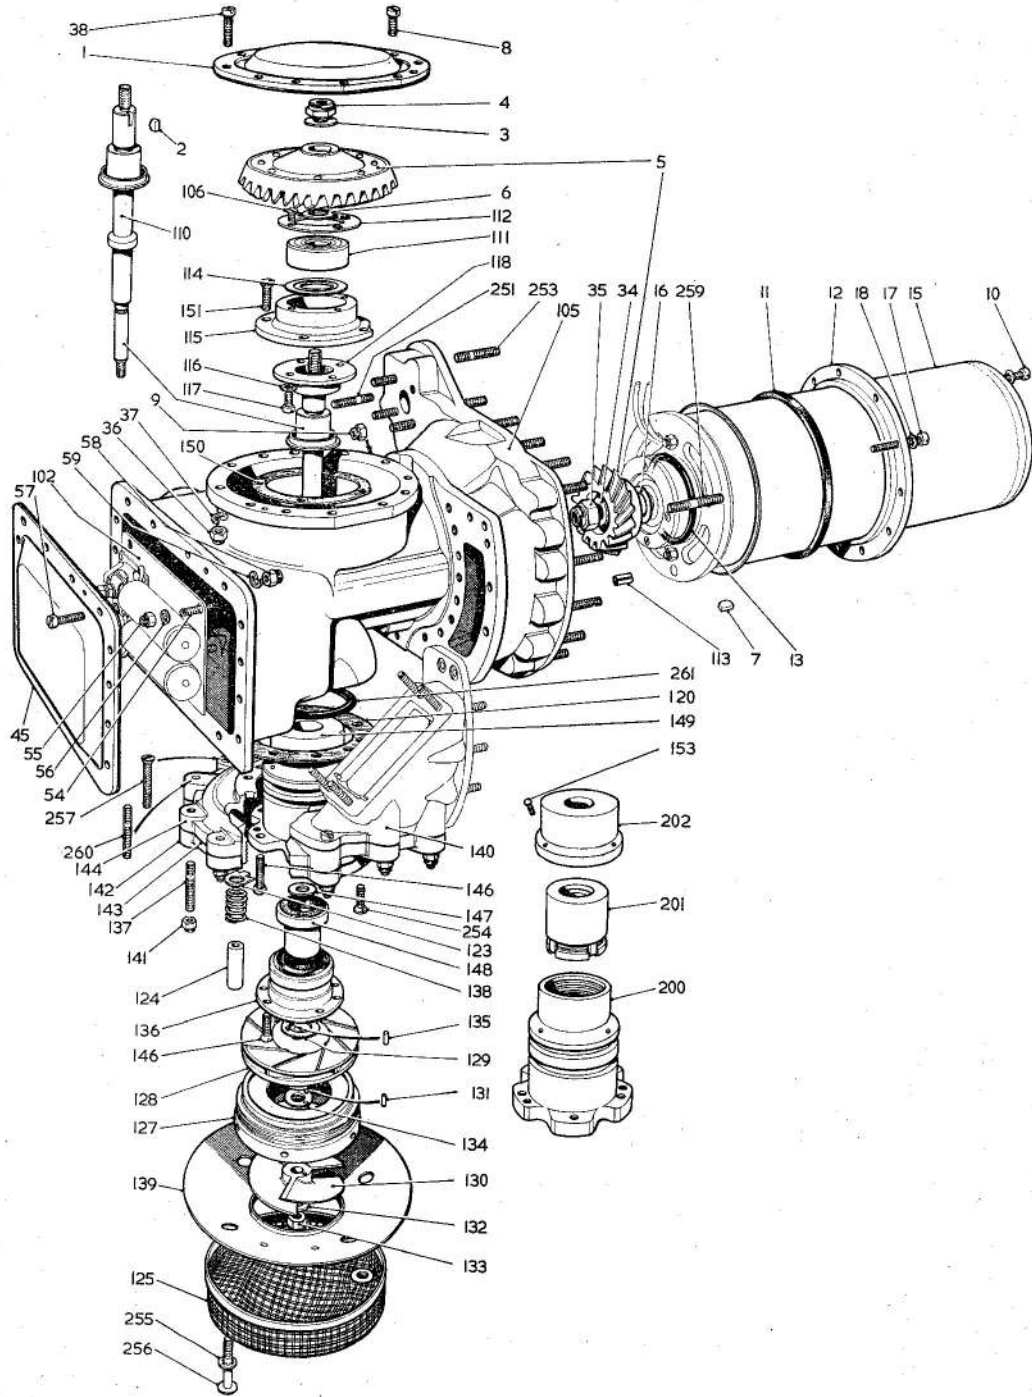

Fig. 32 Exploded view of pump unit
Key to Fig. 32
Assembling the capacitor cover (fig. 32)
4. The procedures for withdrawing and assembling a bellows housing sub-assembly is generally similar to the SPE 1214 Mk. 4, but the bellows sleeve (202, fig. 32) is not fitted.